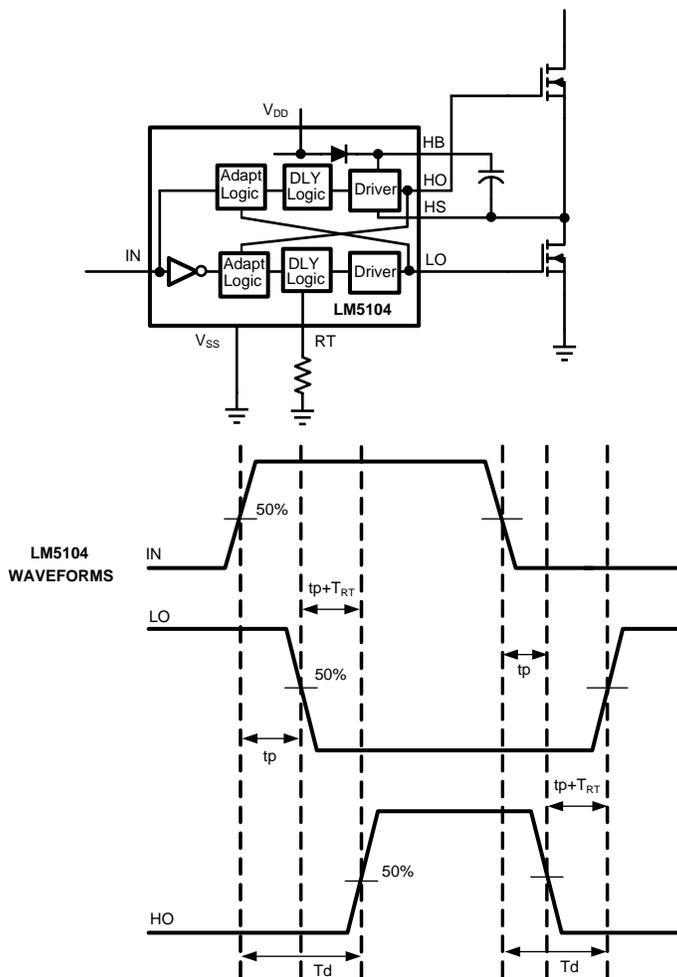

Figure 16. Application Timing Waveforms
LM5104 is a high voltage, high speed dual output driver designed to drive top and bottom MOSFET's connected in synchronous buck or half-bridge configuration, from one externally provided PWM signal. LM5104 features adaptive delay to prevent shoot-through current through top and bottom MOSFETs during switching transitions. Referring to the timing diagram Figure 16, the rising edge of the PWM input (IN) turns off the bottom MOSFET (LO) after a short propagation delay (t_p). An adaptive circuit in the LM5104 monitors the bottom gate voltage (LO) and triggers a programmable delay generator when the LO pin falls below an internally set threshold ($\approx V_{dd}/2$). The gate drive of the upper MOSFET (HO) is disabled until the deadline expires. The upper gate is enabled after the TIMER delay ($t_p + T_{RT}$), and the upper MOSFET turns-on. The additional delay of the timer prevents lower and upper MOSFETs from conducting simultaneously, thereby preventing shoot-through.